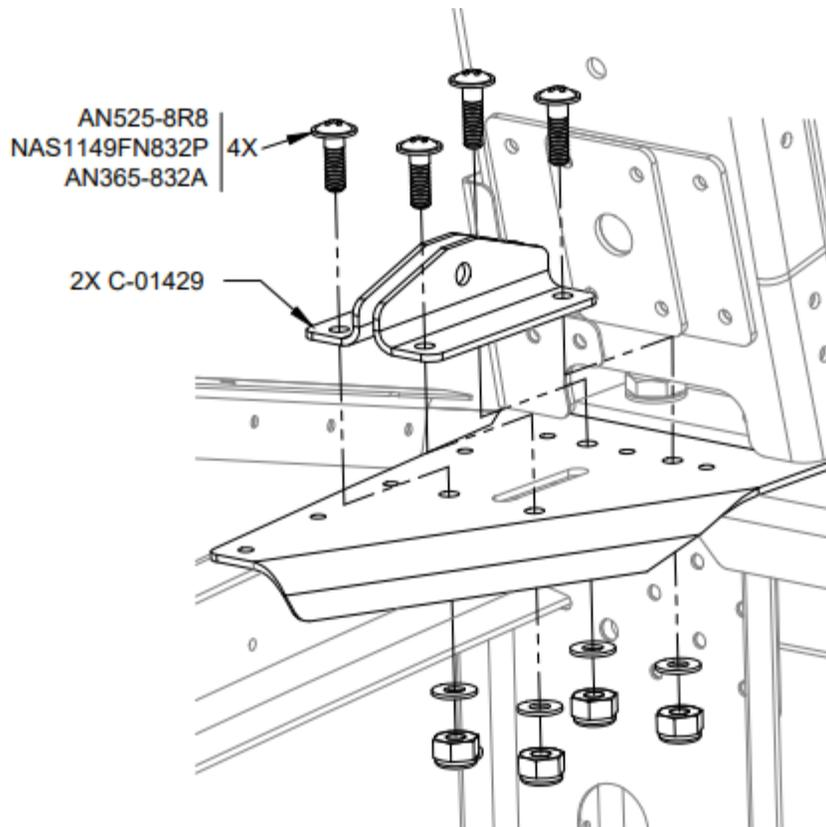

FIGURE 9: BELLCRANK ANGLE REMOVAL
Step 9: Remove Latch Bellcrank Angles as shown in Figure 9.